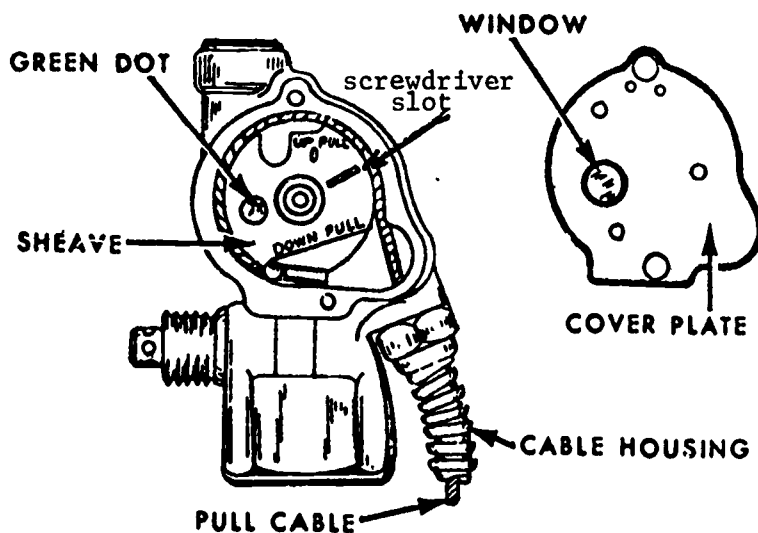

Figure 6.
If a cylinder is overcharged with N_2 or CO_2 , it must be bled down to the proper weight by placing a screwdriver in the slot in the sheave and carefully rotating the sheave clockwise. Note figure 6.
1. Note figure 6. Slide the cable assembly through the cable housing and wrap it around the sheave, engaging the ball in the recess of the sheave for the DOWN PULL position.